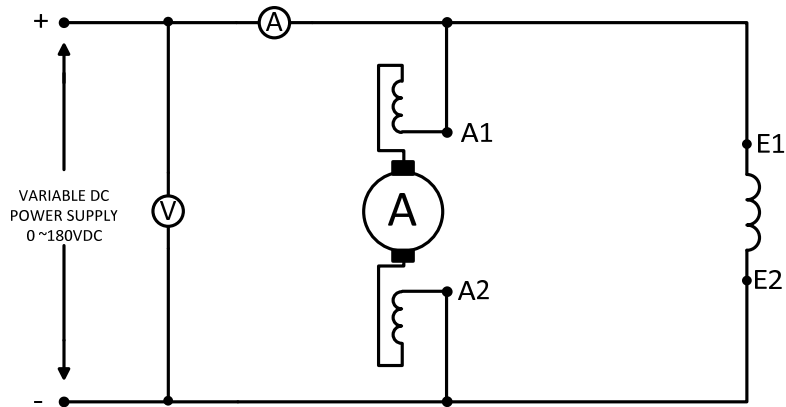

Fig. 1-1: Circuit diagram to study the direction of rotation
1. Connect as per the circuit diagram shown in Fig 1-1.